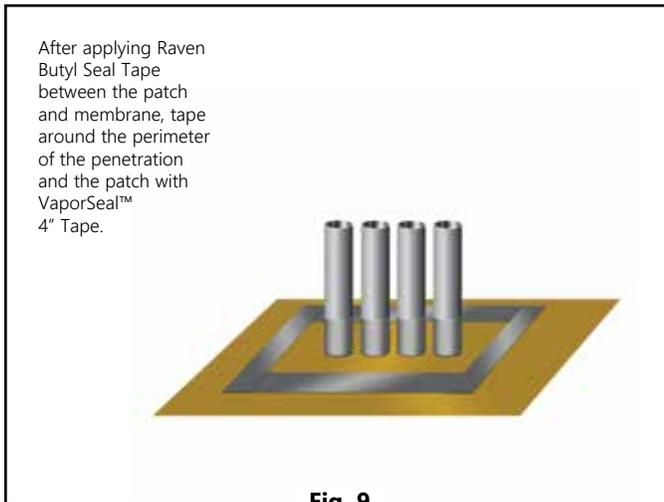

Fig. 9
- E) After applying Raven Butyl Seal Tape between the patch and membrane, tape around each of the penetrations and the patch with VaporSeal™ 4" tape. (Fig. 9) For additional protection apply POUR-N-SEAL™ or an acceptable polyurethane elastomeric sealant around the penetrations. (Fig. 10)